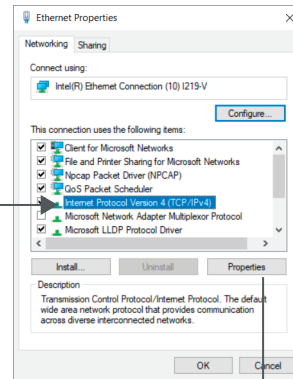

Fig. 8
3. On the properties screen, select **Internet Protocol Version 4 (TCP/IPv4)** and click on Properties (Fig. 8).